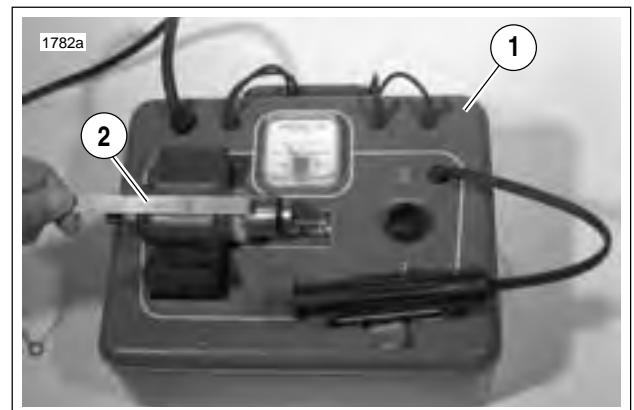
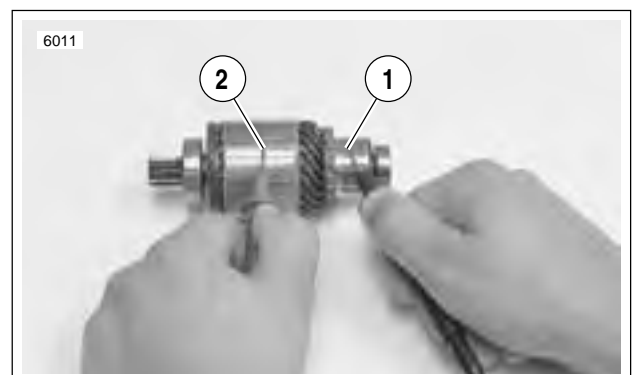

Figure 5-20. Shorted Armature Test Using Growler
Figure 5-21. Grounded Armature Test
9. See Figure 5-20. Check for SHORTED ARMATURE with a growler.
- a. Place armature on growler (1).
- b. Hold a thin steel strip (2) (hacksaw blade) against armature core and slowly turn armature.
10. See Figure 5-21. Check for a GROUNDED ARMATURE with an ohmmeter or continuity tester.
- a. Touch one probe to any commutator segment (1).
- b. Touch the other probe to the armature core (2).